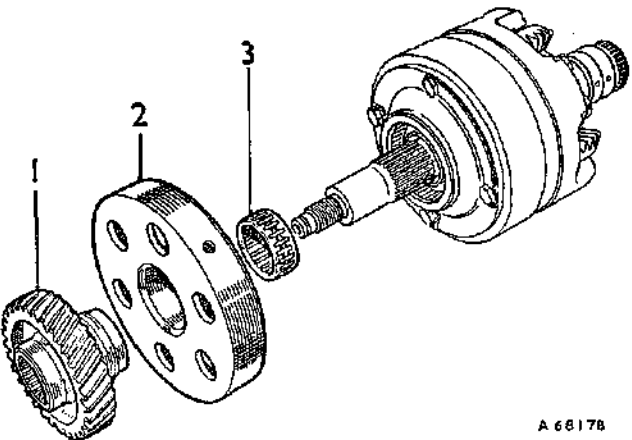

Fig. Fa.47
(30) Refit the input gear and needle-roller bearing (see Fig. Fa.47).